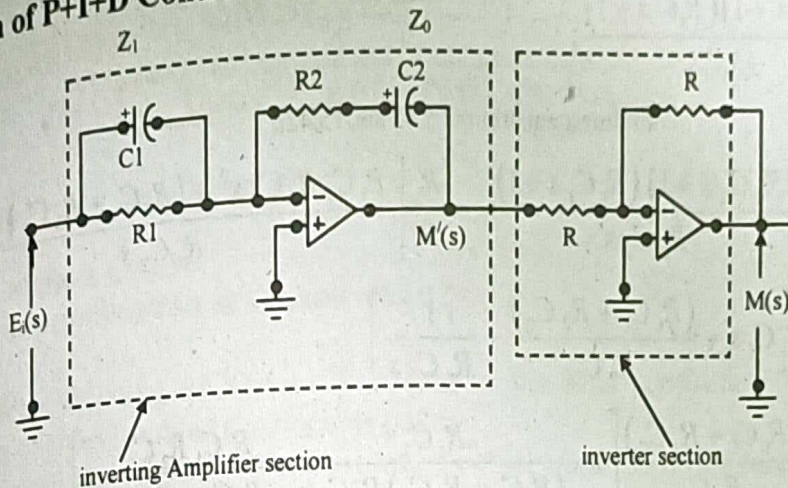

Fig: 3 Electronic circuit of a PID controller
Transfer function for the amplifier section(Fig.3) is given by
T.F. for inverter section (Fig. 3) is given by